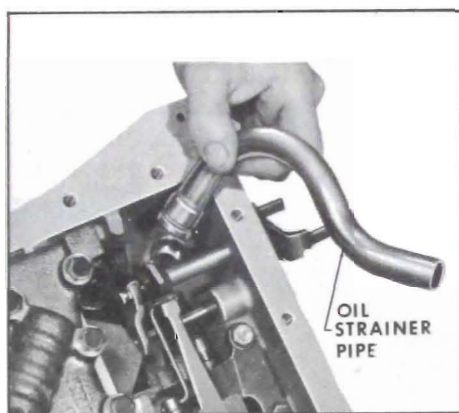

Figure 5-106
3. Lift oil strainer pipe from transmission case. See Figure 5-106.